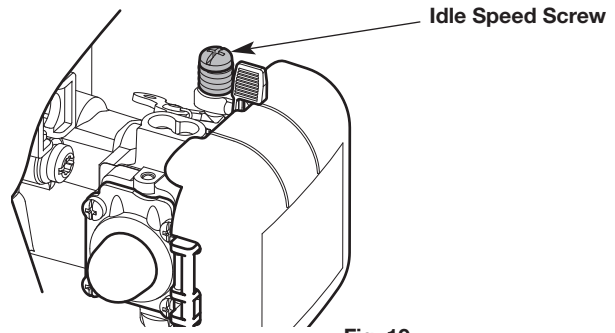

Fig. 19
2. Move the cruise control to the **LO (slow)** position and let the engine idle. If the engine stops, increase the idle speed. Use a small Phillips screwdriver to turn the idle speed screw clockwise, 1/8 of a turn at a time, until the engine idles smoothly (Fig. 19).